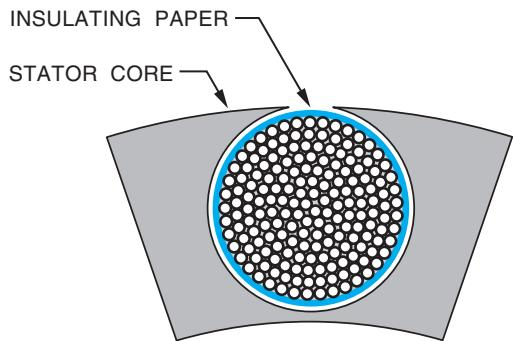

Figure 13-11
2. Inverter rated motors generally have insulating paper between the windings and the stator core, Figure 13-11. The high voltage spikes produce high currents that produce a high magnetic field. This increased magnetic field causes the motor windings to move. This movement can eventually cause the insulation to wear off the wire and produce a grounded motor winding.